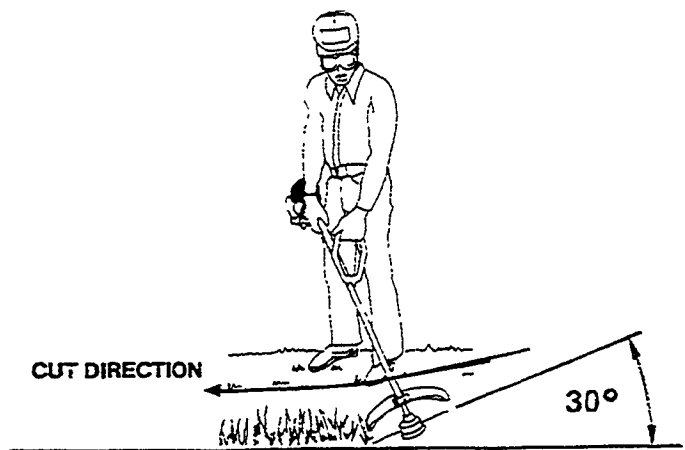

Figure 16
- Hold unit so the rotary head is at an approx. 30° angle to the ground (Figure 16, page 7).
- Cut from left to right with the engine at full throttle, so that clippings will be thrown away from you (Figure 16, page 7).
- **Note:** Never operate trimmer with more than six (6) inches of line extended outside the rotary head. Excessive line length can often be identified by low engine RPM when throttle lever is in the full throttle position.